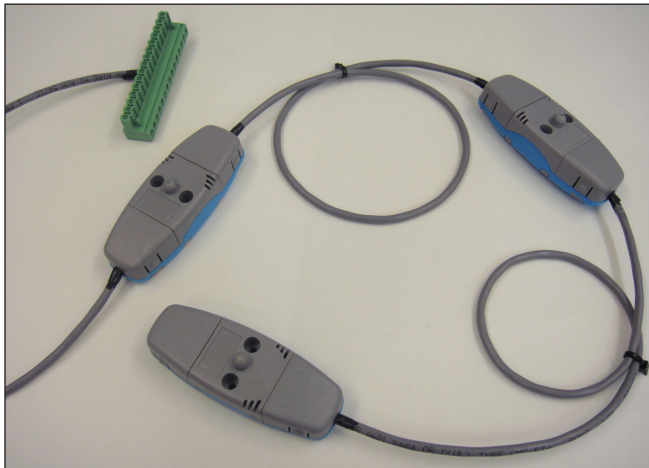

Figure 15. EAFR-01 sensor connection step 9.
9. A maximum amount of three arc sensors can be daisy-chained to the same sensor input on the EAFR-101 relay (see Figure 15).